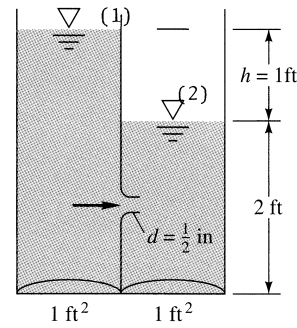

Fig. P6.153
6.153 Two water tanks, each with base area of 1 ft^2 , are connected by a 0.5-in -diameter long-radius nozzle as in Fig. P6.153. If $h = 1 \text{ ft}$ as shown for $t = 0$, estimate the time for $h(t)$ to drop to 0.25 ft .